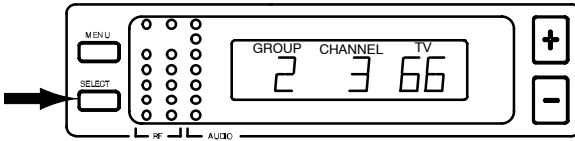

FIGURE 13
- Press the “SELECT” button to choose Group or Channel. The current Group, Channel, and TV channel setting appears, as shown in Figure 13. (Models sold outside the U.S. and Canada may not display TV channel.)